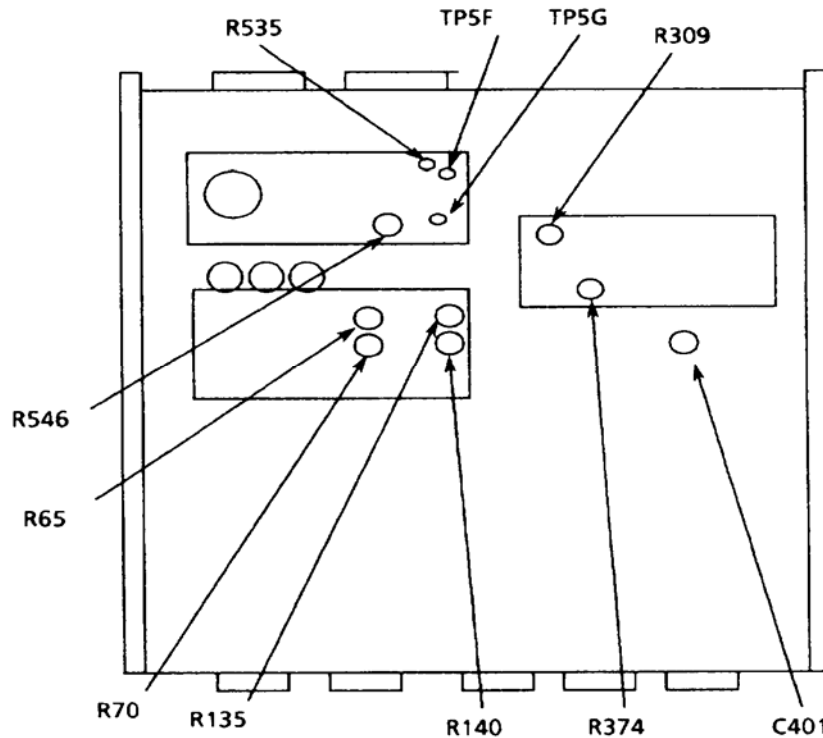

Figure 2. Test instrument - Top view.
b. Adjustments. Adjust **AMPLITUDE VERNIER** control fully ccw and adjust R374 (fig. 2) for a pulse amplitude indication on oscilloscope of less than 50 V (R).
- (1) Adjust R140 (fig. 2) for a pulse width indication on oscilloscope of 50 ns or less.
- (2) Adjust R135 (fig. 2) for a pulse width indication on oscilloscope of 100 μs or greater.
(1) Adjust R65 (fig. 2) until leading edge of output pulse indicated on oscilloscope is 10 μ s or more to the right of leading edge of sync pulse (R).
(2) Adjust R70 (fig. 2) until pulse delay indicated on oscilloscope is 10 μ s or less (R).
(1) Adjust R309 (fig. 2) for minimum pulse aberrations (R).
(2) Adjust C401 (fig. 2) for minimum pulse overshoot (R).
- (1) Set **POWER** switch to **OFF** and remove top protective cover.
- (2) Connect multimeter negative terminal to circuit ground and positive terminal to TP5F (fig. 2).
- (3) Set **POWER** switch to **ON**. If multimeter indication is not between -190 and -210 V dc, perform **b** (1) below.
- (4) Move digital voltmeter negative lead to TP5G (fig. 2). If multimeter indication is not between + 34 and + 36 V dc, perform **b** (2) below.
- (1) Adjust R535 (fig. 2) for a -200 V dc indication on multimeter (R).
- (2) Adjust R546 (fig. 2) for a + 35 V dc indication on multimeter (R).